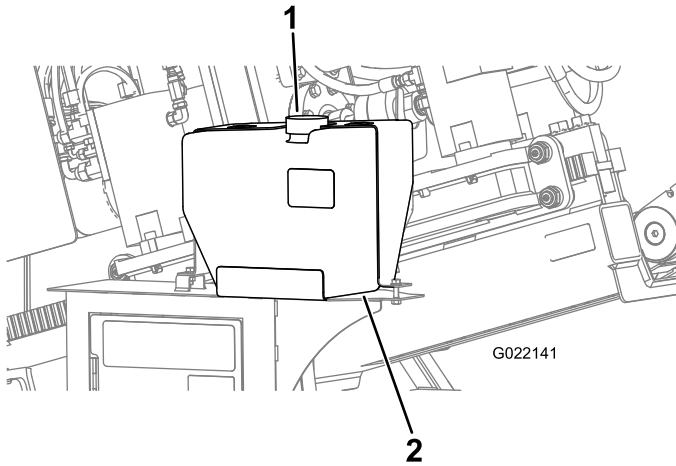

Figure 153
- D. Remove the cap from the antifreeze tank for the drilling-fluid pump (Figure 153).
E. Ensure that the tank is full of antifreeze (Figure 153).
C. Add antifreeze to the tank as needed (Figure 153).
5. Install the cap onto the antifreeze tank (Figure 153).